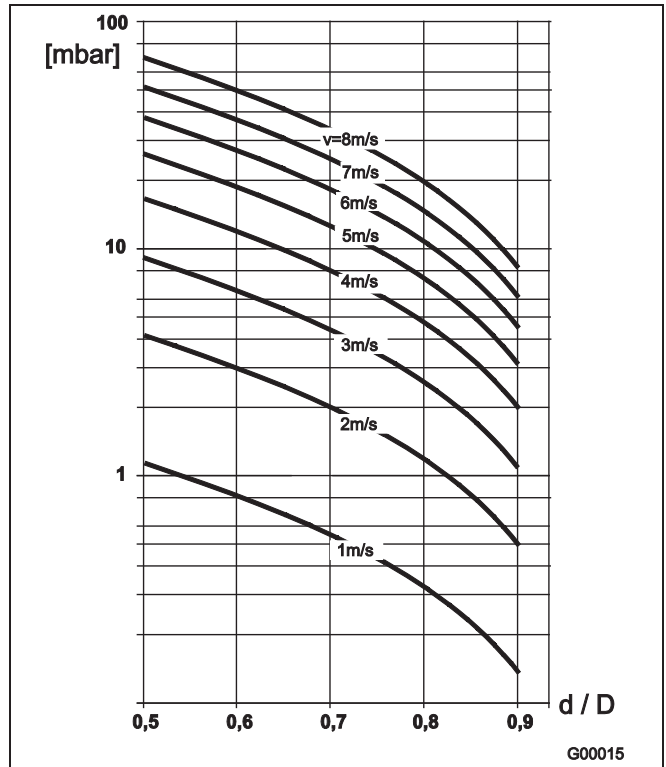

Fig. 24
2. Determine the flow velocity based on the flow range nomograph (Fig. 24).
3. Read the pressure drop on the Y-axis in Fig. 24.